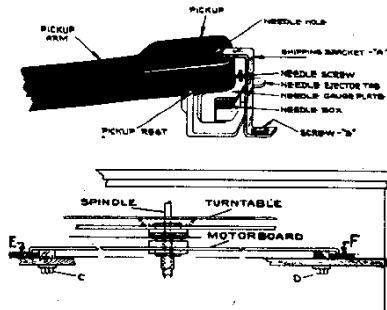

Figure 1 - Unpacking
PREPARING FOR OPERATION - Remove the bracket "A" securing the pickup and needle mechanism. This bracket is shown in place in Figure 1. It is held to the motorboard by means of a screw "B". Remove the screw, lift off the bracket and replace screw in motorboard to cover hole. Then remove red bolts "C" and "D" which hold the motorboard secure during shipment. These are also shown in Figure 1. When these bolts are removed it will allow the wood strips to be taken out. "E" and "F".
TO OPERATE THE PHONOGRAPH: To play records, set the radio Power switch to the "ON" position. With the Index Lever at Manual and the pickup resting on the support over the needle gauge plate, arm in groove, loosen the needle screw and drop a needle, point first, through the needle hole in the pickup. (See Figures 1 and 6). The needle will be stopped in the right position by the needle gauge plate. Press gently on top of pickup to seat it squarely on the gauge plate. Then tighten the needle screw with your fingers.
2. Make sure the pickup arm is resting in its groove with pickup over used needle box. See Figures 1 and 6.